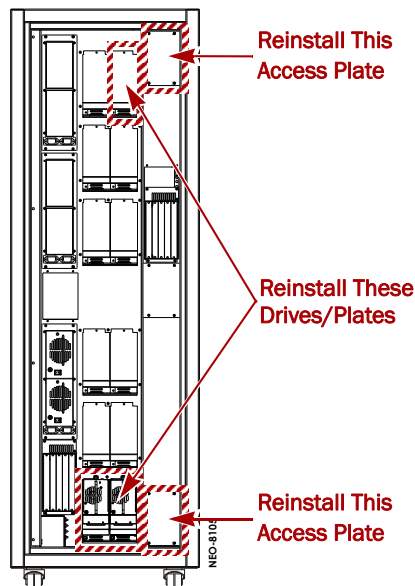

Figure 4-1: Reinstall Rear Panels or Drives
5. Reinstall drives (or drive panels) for **drive bays 1, 2, and 11**. Reconnect any cables previously removed (Figure 4-1).